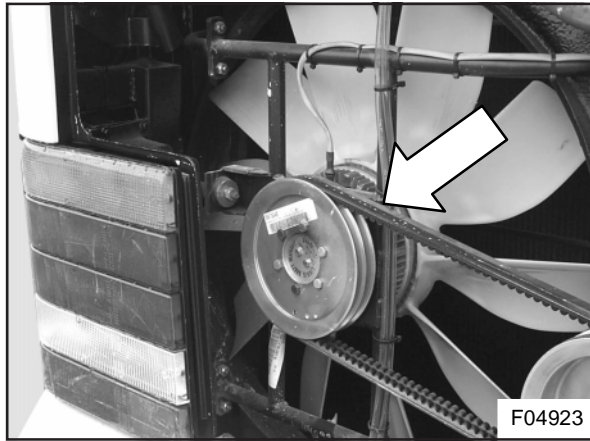
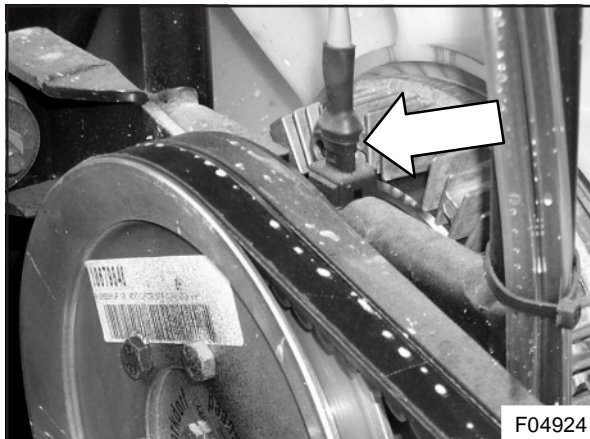

Figure 7 : Latest clutch type (on T2100 coaches only)
Figure 8 : Location of fan clutch connector
7. On coaches equipped with the latest clutch type (see Figure 7), remove the clutch connector at the fan clutch (see Figure 8).